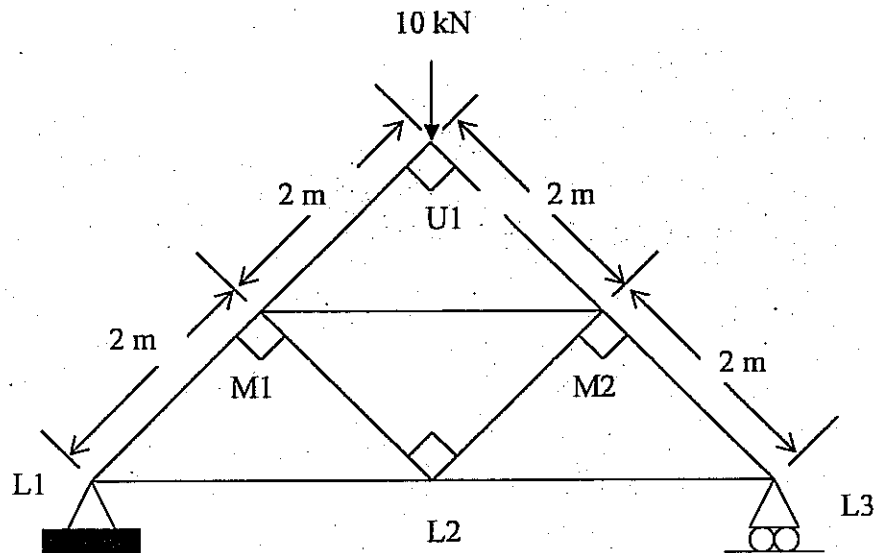

Figure Q2
- ii) As shown in Figure Q2, the truss is loaded.